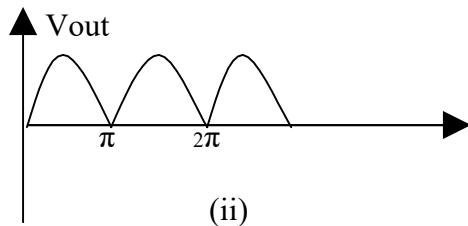

Fig. 2.6 Centre tapped Full wave rectifier (i) Circuit diagram (ii) waveforms
- The circuit diagram of a center tapped full wave rectifier is shown in fig. 2.6 above. It employs two diodes and a center tap transformer. The a.c. signal to be rectified is applied to the primary of the transformer and the d.c. output is taken across the load  $R_L$ .